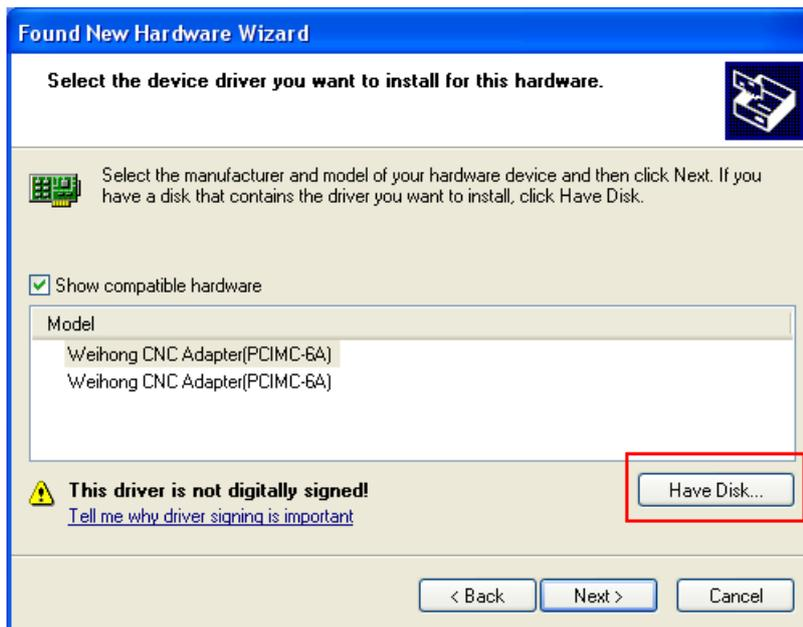

Fig. 3-3 Select the driver manually
- 4) A dialog box containing compatible hardware will pop up, as shown in Fig. 3-3, click [Have Disk...] button to open the next dialog box.